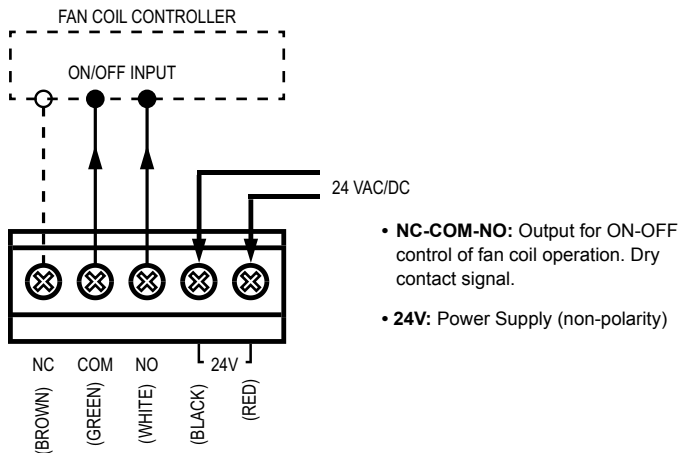

Figure 3: Wiring the sensor
- Connect the cable to the corresponding terminals as shown in **Figure 3**.